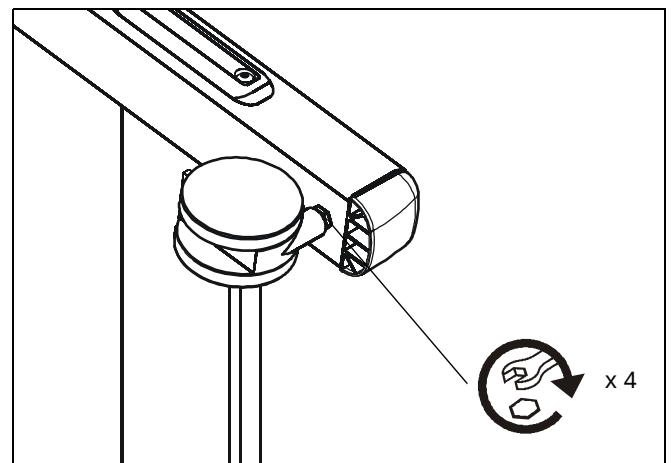

Figure 20
- Check and tighten the hex nuts on the casters occasionally. (See Figure 20) These should be checked especially after use on uneven ground.